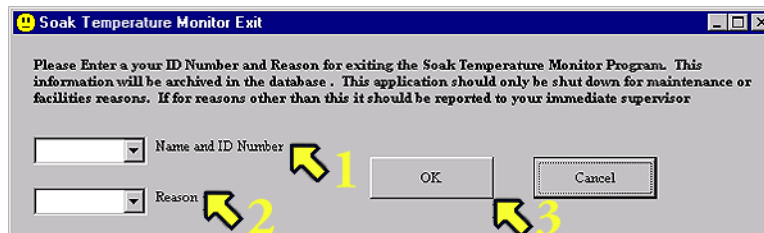

Figure 11
- 111 In the "Soak Temperature Monitor Exit" dialog box, enter your "Name and ID Number" by clicking on the appropriate down-arrow and selecting it from the list. See Arrow 1 in Figure 11. Click on the down-arrow next to "Reason" and use the keyboard to enter the justification for exiting the program. See Arrow 2 in Figure 11. Click on the "OK" button. See Arrow 3 in Figure 11.